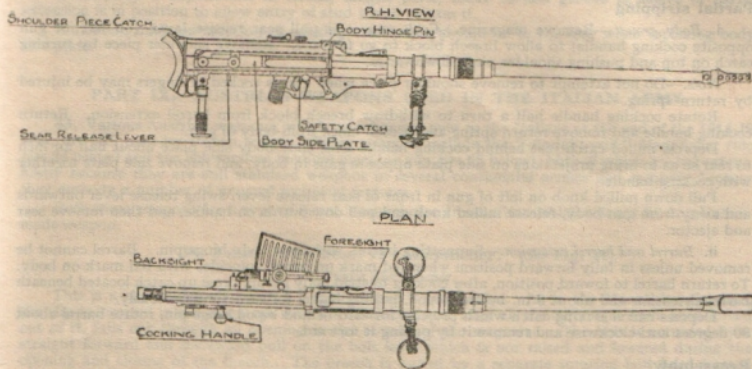

FIG. 20.—20 MM. A/TK RIFLE—SOLOTHURN
32. 20 mm. A.Tk. Rifle—Solothurn. (See Fig. 20)